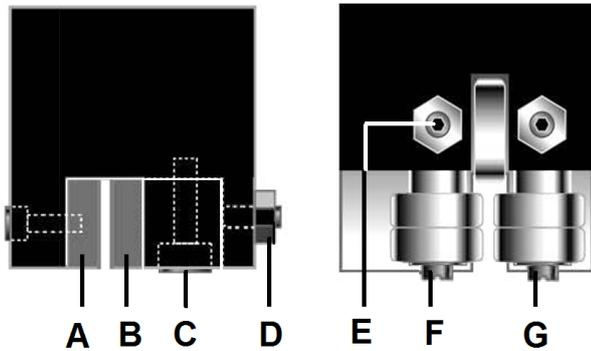

Figure 8-9: Blade Guide Adjustment
The position for pad (A, Fig 8-9) and bearings (G) are fixed and cannot be adjusted.